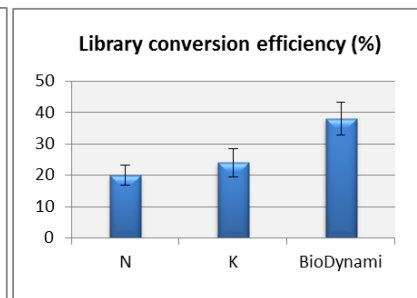

Fig. 3
- Guaranteed quality: higher library conversion efficiency as compared to other kits (Fig. 3)